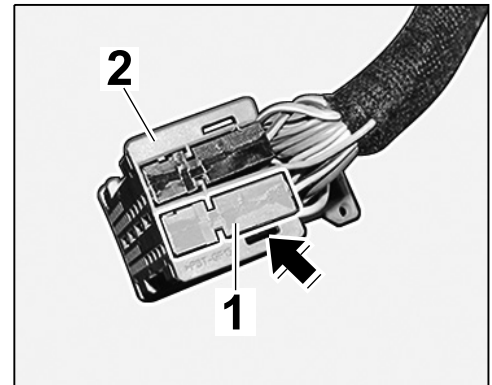

Figure 15
- 2.4.7 Slide grey plug socket ⇒ *Figure 15 -1-* into the plug carrier ⇒ *Figure 15-2-* until the locking mechanism ⇒ *Figure 15 -arrow-* engages.